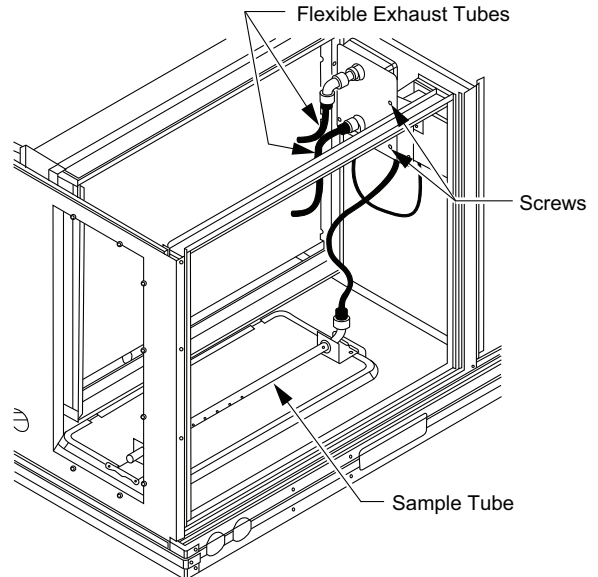

Fig. 44 — Return Air Smoke Detector Shipping Position
1. Unscrew the two screws holding the return air sensor detector plate. See Fig. 44. Save the screws.